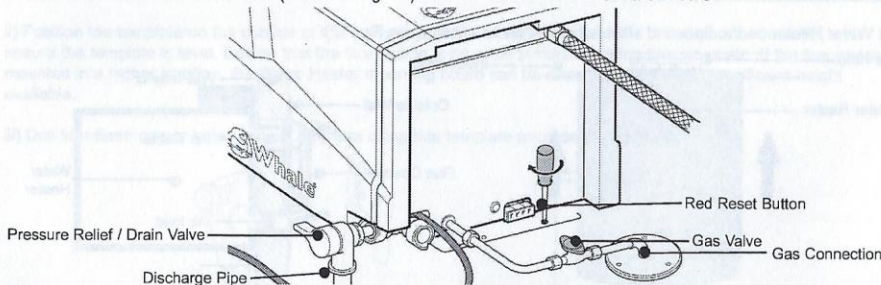

Fig. 16 Connect to Gas Supply
#### Step 8 Connect to Gas Supply (see Fig. 16)
**Please note:** Valve and connection (shown in Fig. 16) are not included with this Water Heater.